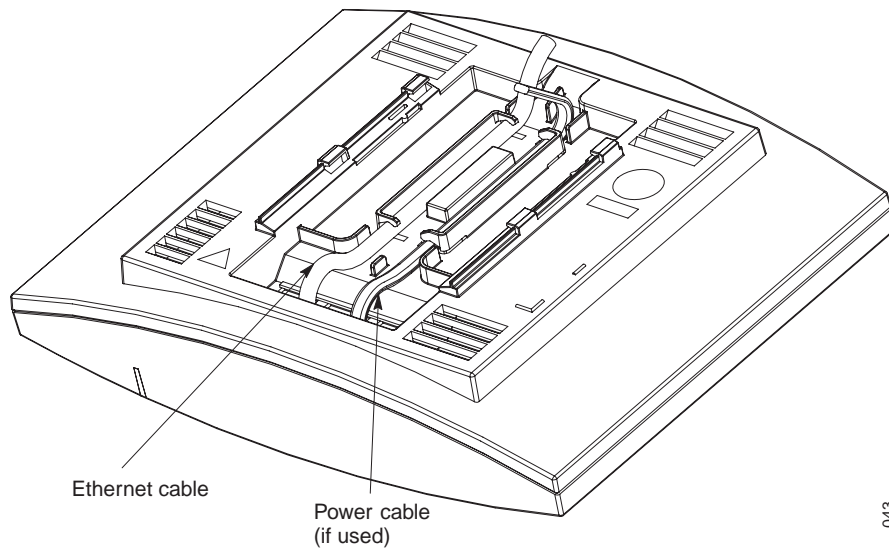

Figure 16. Cables entering the IPBS centrally from above
- 1 If it is required that the cables enter the IPBS centrally from above, guide the cables through the recess in the middle of the IPBS as shown in figure 16 on page 31.